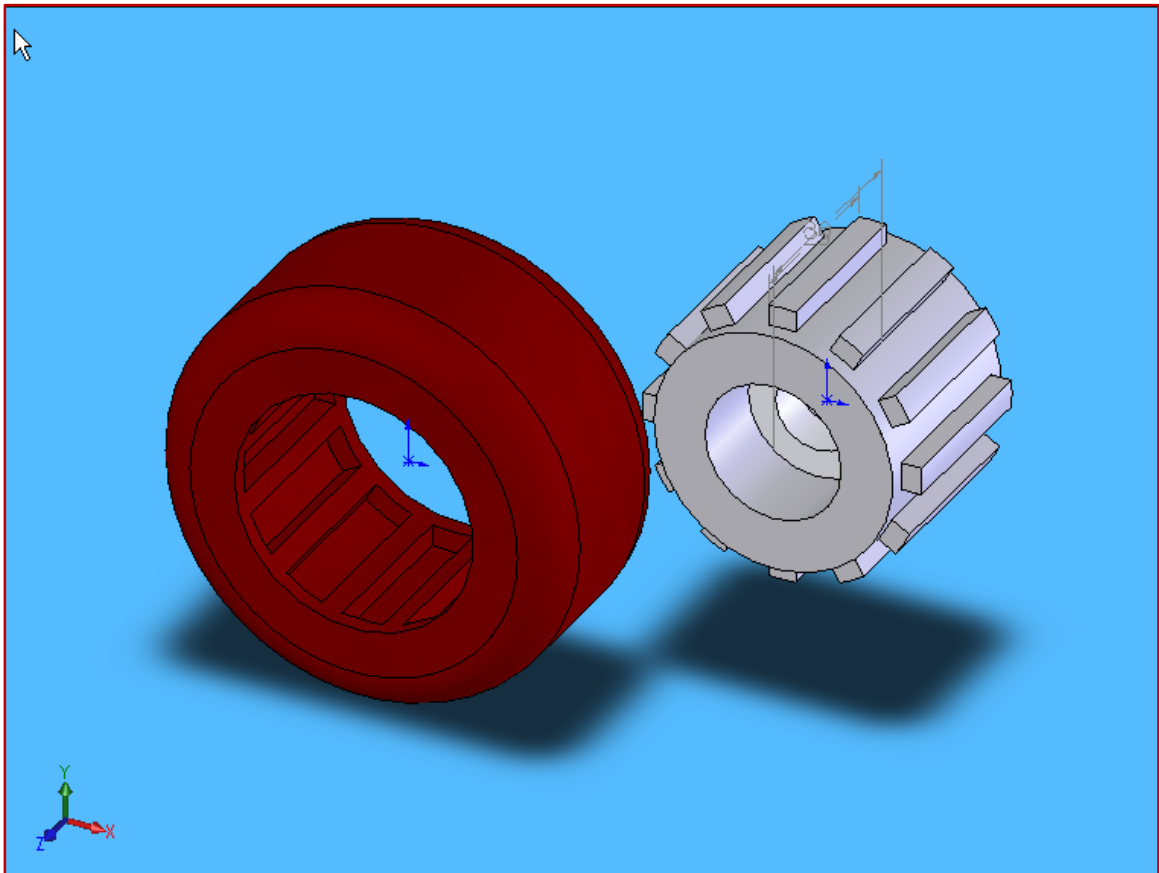

Figure 10.3 – Adding the Tire to the Assembly
- ✓ Browse to the tire model (SKBD122), click to select and click OK to bring the tire to the graphics area. See Figure 10.3.